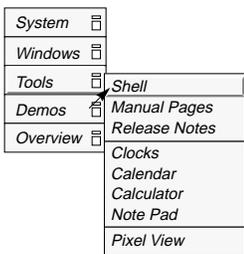

Figure 2-1
1. Open a shell window (Figure 2-1).